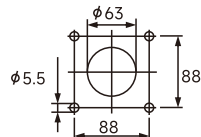

Figure 36
(5) As shown in Figure 36: Drill 4 holes of $\Phi 5.5$ on the cabinet door panel with centered around $\Phi 63$; Screw out the four nuts on the handle again, align and insert the four screws on the handle from the outside of the cabinet door to 4- $\Phi 5.5$ holes, and make the handle at the horizontal indication "0" position; Then put on and tighten the four nuts